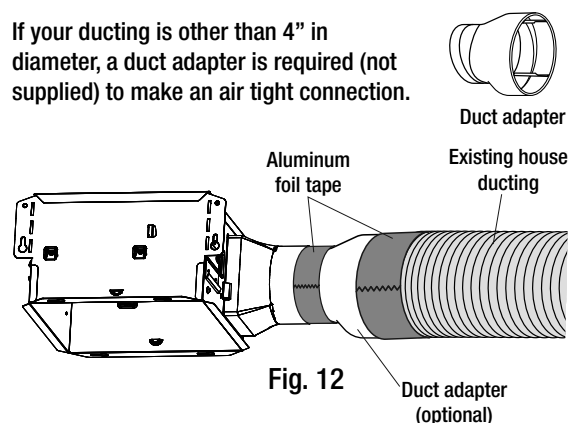

Fig. 12
- If using a flexible duct connector or duct adapter, use aluminum foil tape at each end to secure the connector or adapter to the existing ducting and to the fan's damper. See figure 12.